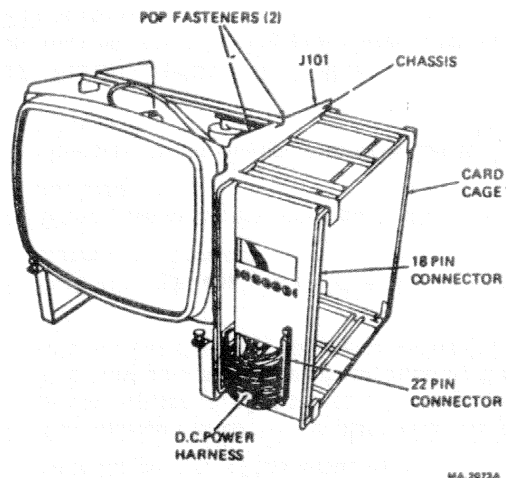

Figure 5-18 VT100 DC Power Harness Removal
9. If VT100: Remove the two E-ring fasteners (spread the spring clips on late model terminals) holding the 22-pin edge connector to the card cage, then remove the connector (Figure 5-18).